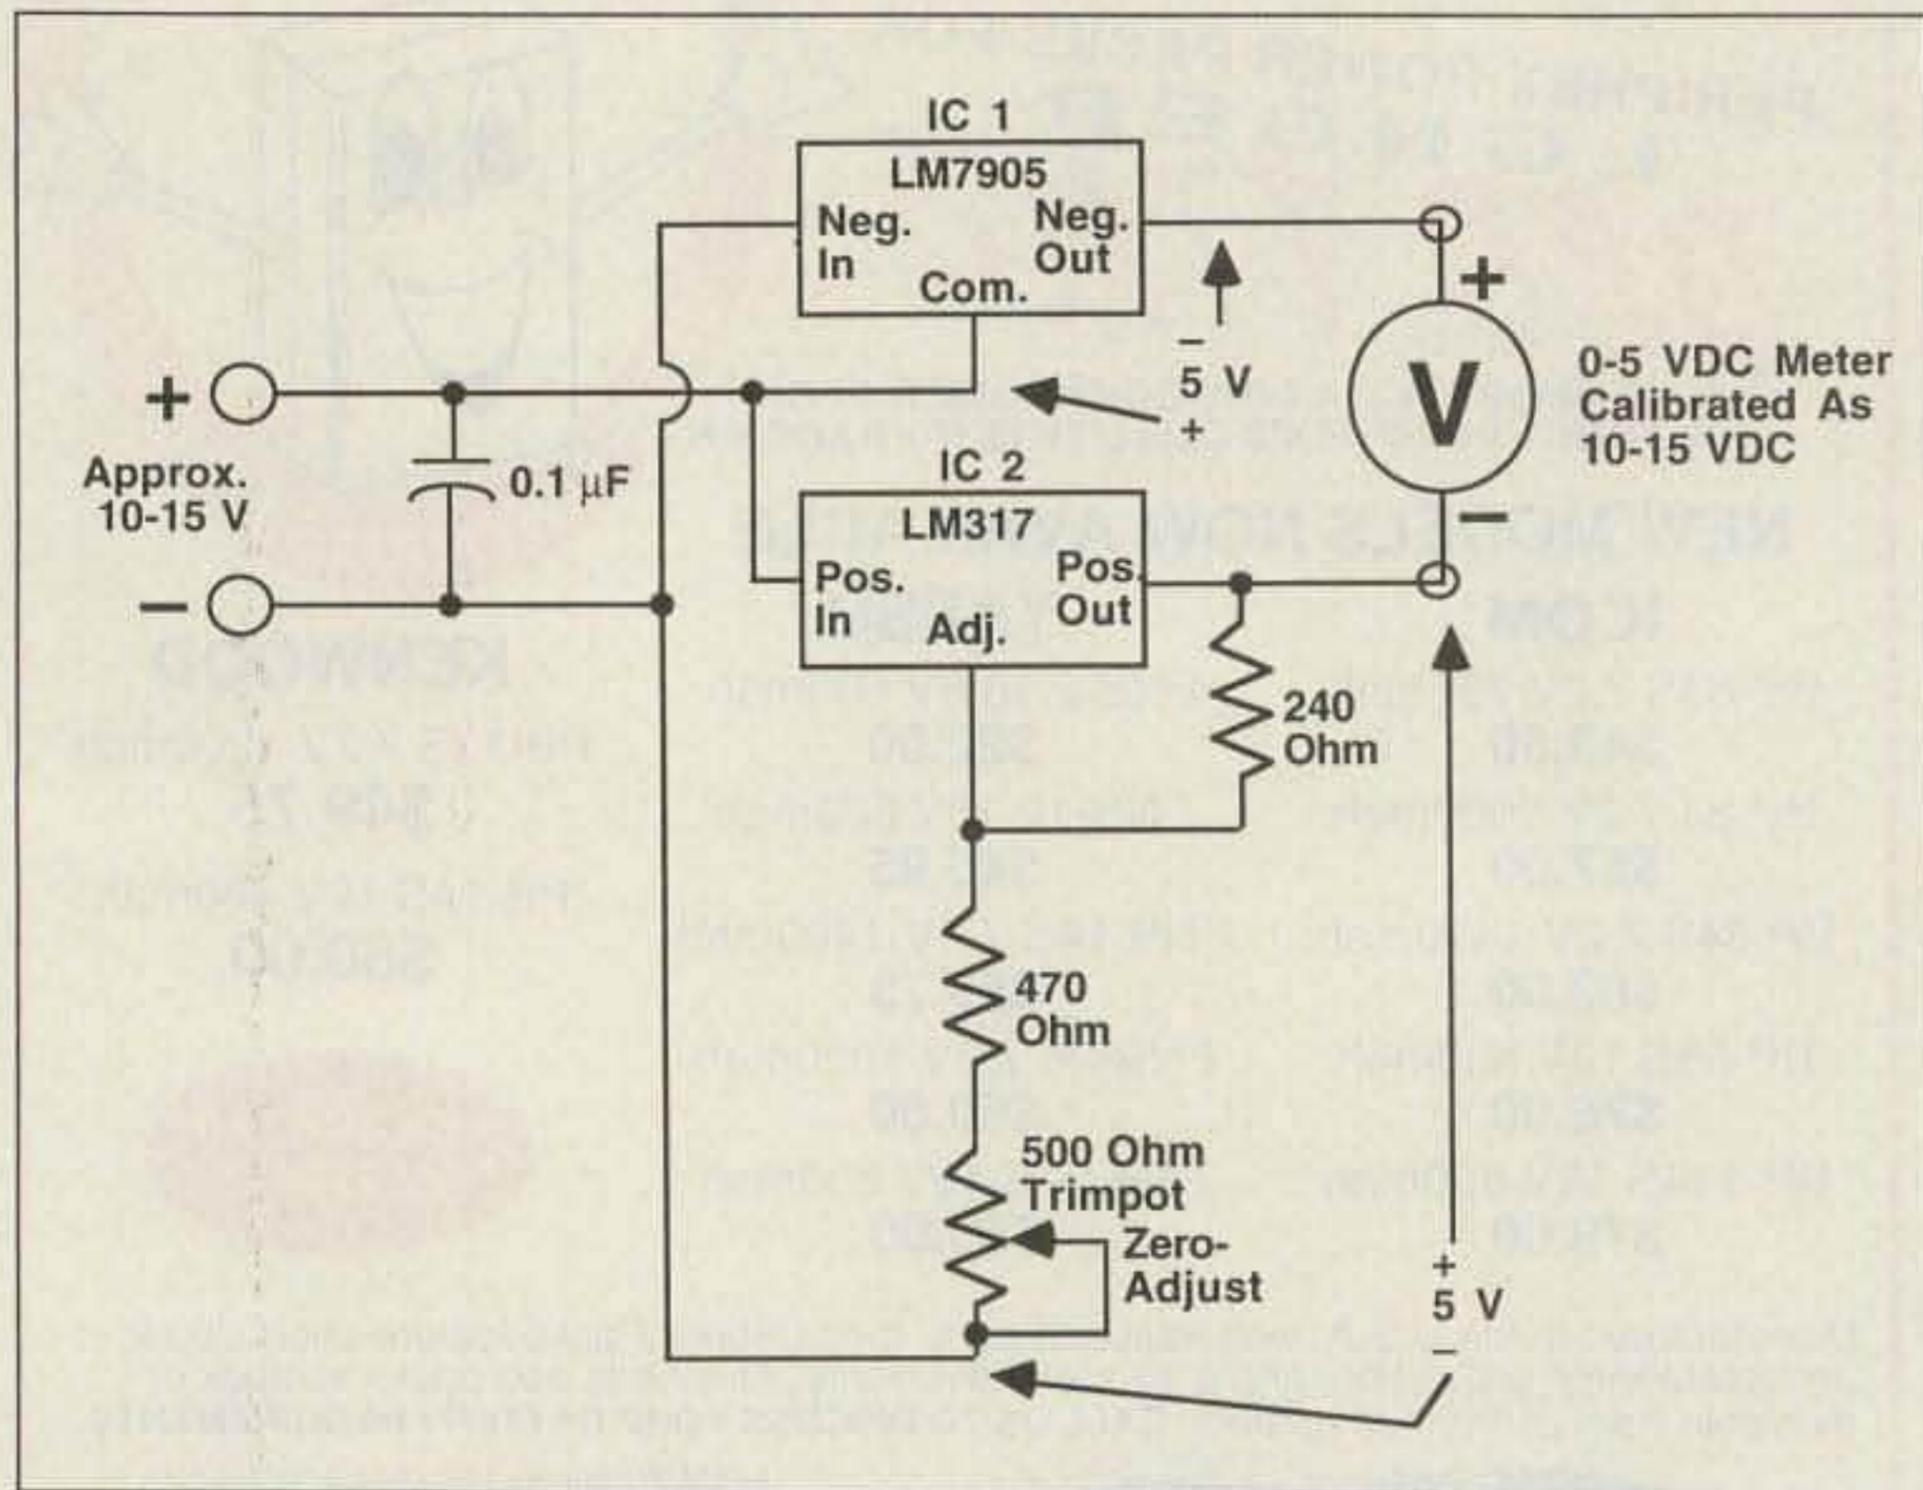
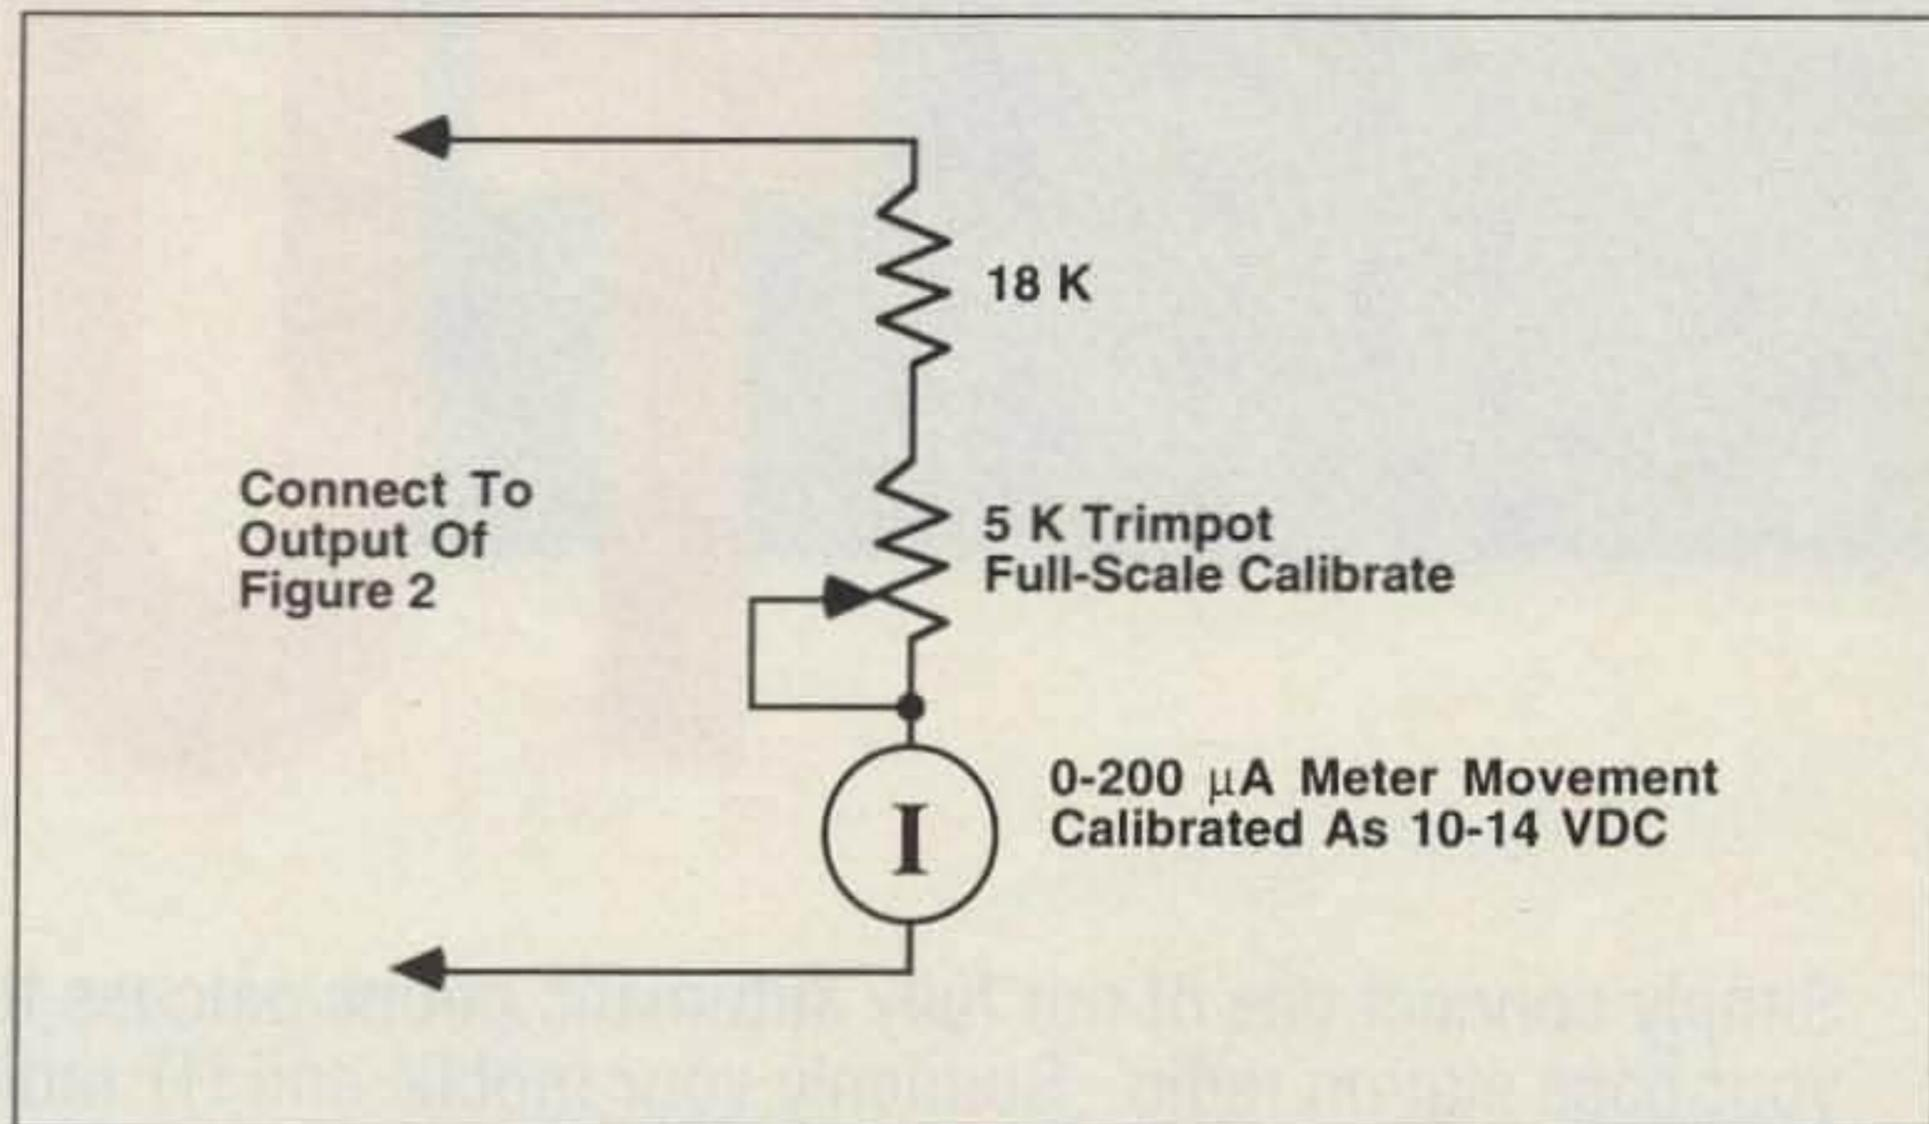

Figure 2. A more accurate expanded-scale voltmeter using voltage regulator ICs.
Figure 3. Using a basic 200 microamp meter movement as a 4-volt voltmeter.
To improve accuracy and provide for easy, precise adjustment, I developed the circuit shown in Figure 2. Two inexpensive three-terminal IC voltage regulators are used, provid-
Since the meter current is low, the regulator ICs can be either the low-current types or the more common TO-220 package types; no heat sinks are needed. Since any of several regulator packages might be chosen, a pictorial wiring diagram has not been shown. Point-to-point wiring on a perf-board is very practical; just make sure you have the proper pin configuration for your regulator packages, and follow the wiring shown in Figure 2. Photo B shows a completed meter, mounted in a cabinet, with the circuit of Figure 2 mounted on a perf-board attached to the meter terminals. This unit was built using one low-power (TO-92) package and one TO-220 package (what I had in the parts drawer). The zero-adjust pot is visible on the lower left.
*Photo B. Rear view of a completed expanded-scale voltmeter. The circuit of Figure 2 is mounted on a perf-board which is attached to the meter terminals.*
too. For example, suppose you have a 200-microamp meter with only four scale segments. It could be modified to a 4-volt full-scale voltmeter with a series resistance of 20k ohm (series resistance is approximately the full-scale meter voltage desired divided by full-scale current sensitivity). Using the circuit shown in Figure 2, an expanded-scale display of 10 to 14 volts would result. If an 11- to 15-volt range is preferred, IC1 could be changed to a 7906, or IC2 readjusted for a 6-volt drop. The original scale divisions would be fine for the 4-volt range, and the original numbers and microamp label could be covered with white paint or gummed labels and the meter face then relabeled. Full-scale trim can be provided by making about 10 to 20 percent of the total dropping resistance variable with a trimpot; Figure 3 shows a possible meter circuit. If a high-voltage voltmeter is being modified to 4 or 5 volts full-scale, these same considerations apply, once the basic full-scale current sensitivity is found.